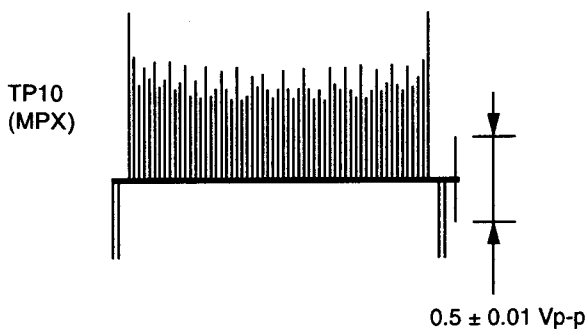

Fig. 5-2-4
- Adjust VR3 so that the carrier on the Command signal becomes  $0.5 \pm 0.01$  Vp-p as shown in the Fig. 5-2-4.